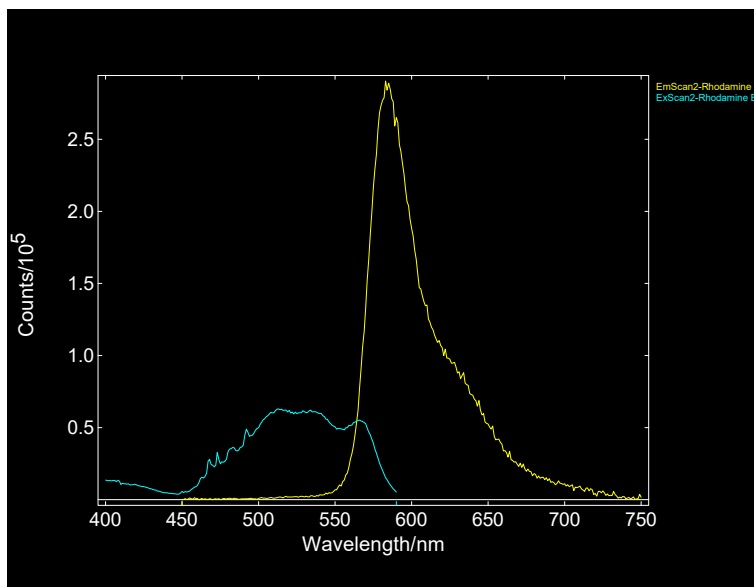

Figure 3: Combined excitation and emission spectra from Rhodamine B dissolved in DI water.
5. With the excitation and emission plots open, click the merge plots button along the top to make a combined graph that has both pieces of information, as shown in Figure 3.